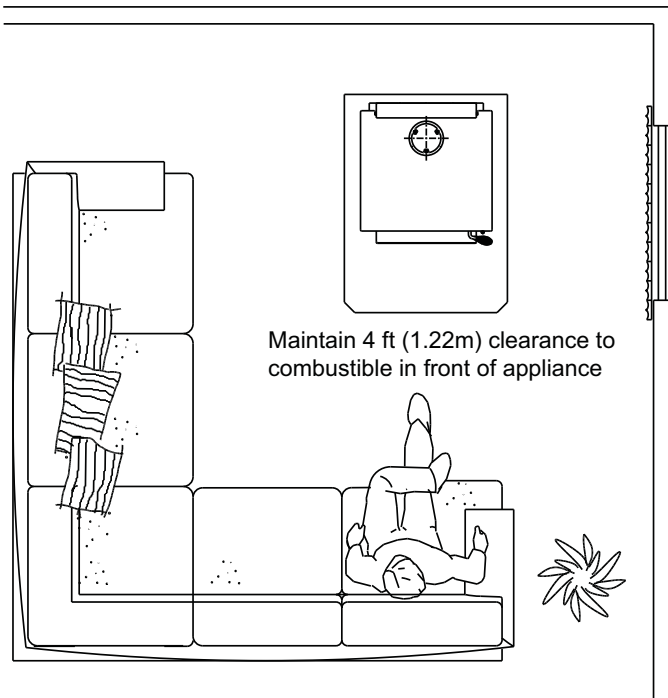

Figure 16.1
**NOTE:** Do NOT place combustible objects within 4 ft (1.2 m) of the front of appliance (**Figure 16.1**).